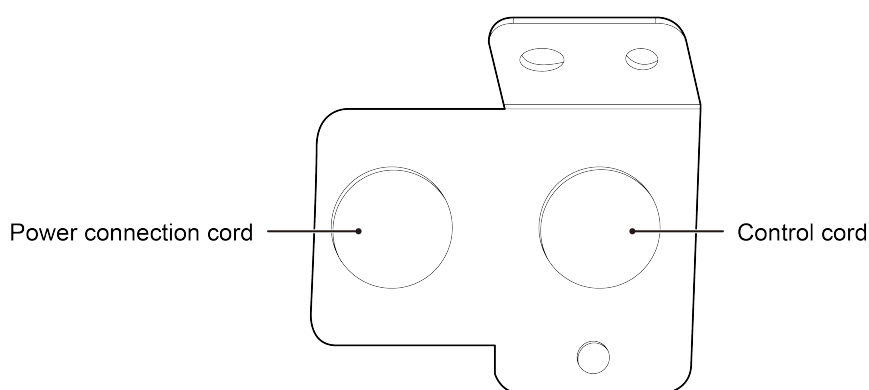

Fig. 5.6
- ① Only auxiliary devices approved by the appliance manufacturer or declared suitable with the refrigerant shall be installed in Indoor Unit.
- ② Do NOT install operating ignition sources (example: open flames, an operating gas appliance or an operating electric heater) in Indoor Unit.
- ③ No auxiliary devices, which may be a potential ignition source, are installed in Indoor Unit (example: hot surfaces with a temperature exceeding 700°C and electric switching device).
- (1) When routing the piping and wiring from the left or right side of the indoor unit, it is necessary to cut off the tailings of the pipe left on the holder of the unit.
- (2) Let the tubing and cord pass though the piping hole after tied up (refer to Fig. 5.6).
- (3) Hang the claw behind the indoor unit on the pothook on the wall panel, and move the unit left and right to check if the body is firm.
- (4) Guarantee that the installation height of the indoor unit should be 2.5m(8-1/4feet) above the floor.